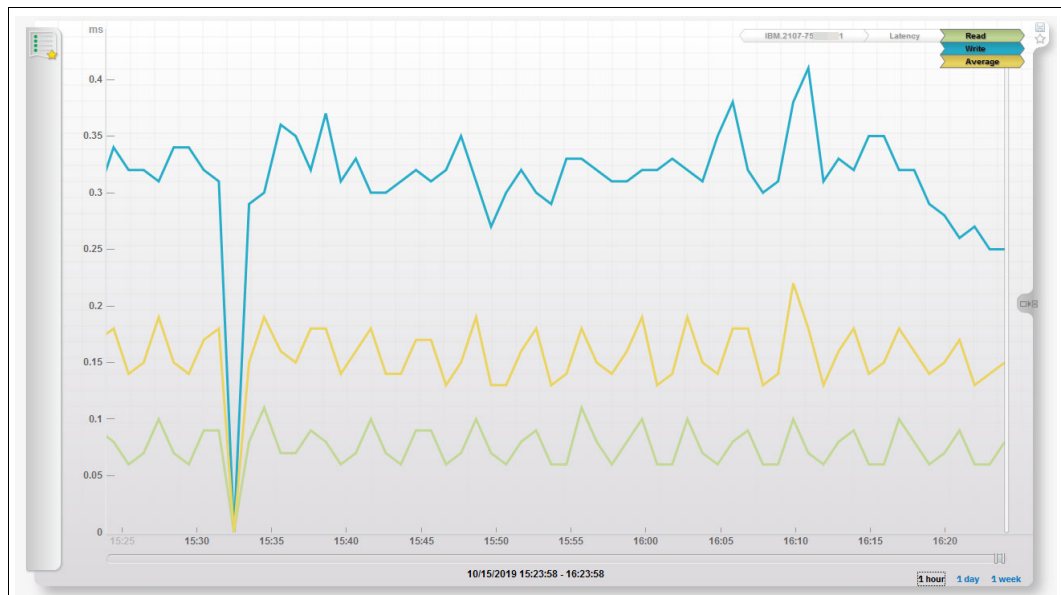

Figure 9-119 System performance graph
4. Draw the graph, which is shown in Figure 9-119.